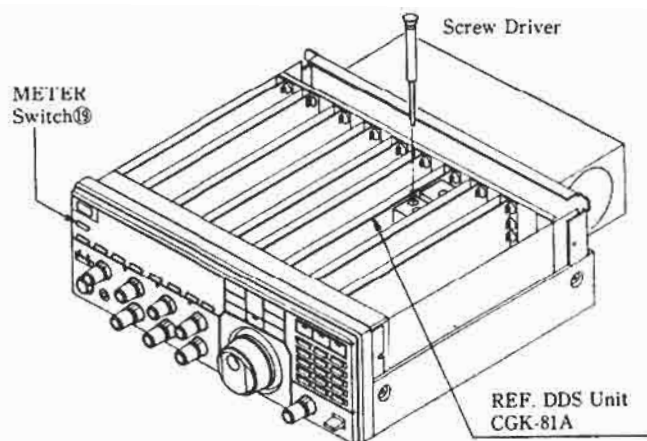

Fig. 7.6 Adjustment of Standard Oscillator
- (1) Remove the top cover according to 7.3 "Removal of Covers".
- (2) Do not disconnect the internal-speaker cable. If disconnection is required, connect an external speaker to the SP jack ② on the rear panel.
- (3) Turn on the POWER switch ① and receive the standard frequency station (WWV, etc.) in the CW mode. At receiving tune up to 10-Hz digit.
- (4) While keeping the METER switch ③ pressed, adjust the trimmer on the REF-DDS Unit CGK-81A as shown in Fig. 7.6 to obtain the zero-beat.
- (5) Turn off the POWER switch ① and replace the top cover.